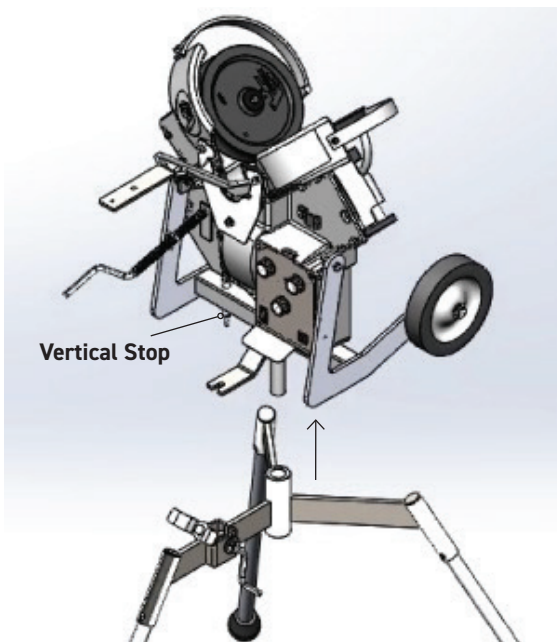

Fig. 2
3. Ensure that the vertical stop (see fig. 2) is pressed against the machine casting, such that the head can't tilt up and down (see fig. 2).
4. Using a two-person lift, lift the junior head off the undercarriage and legs (see fig. 2).